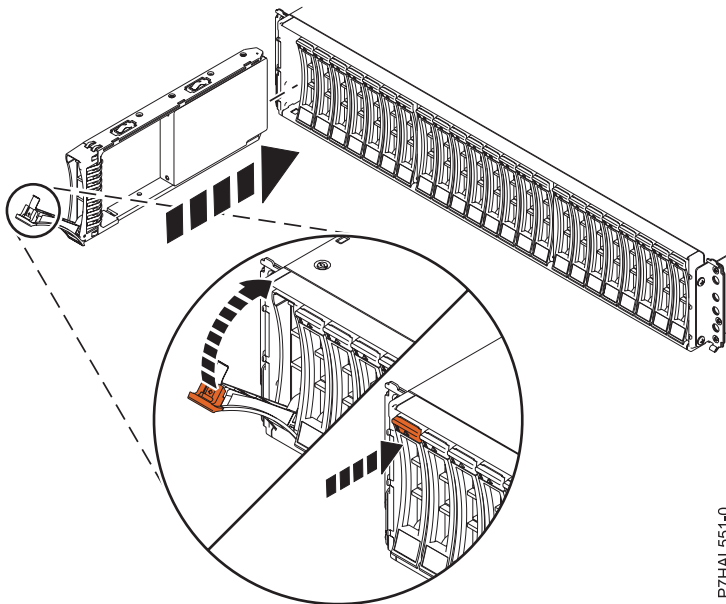

Figure 3. Installing the disk drive in the 58/87 disk drive enclosure
1. With the handle in the unlocked position, as shown in Figure 3, support the bottom of the drive as you align it with the guide rails in the expansion unit.